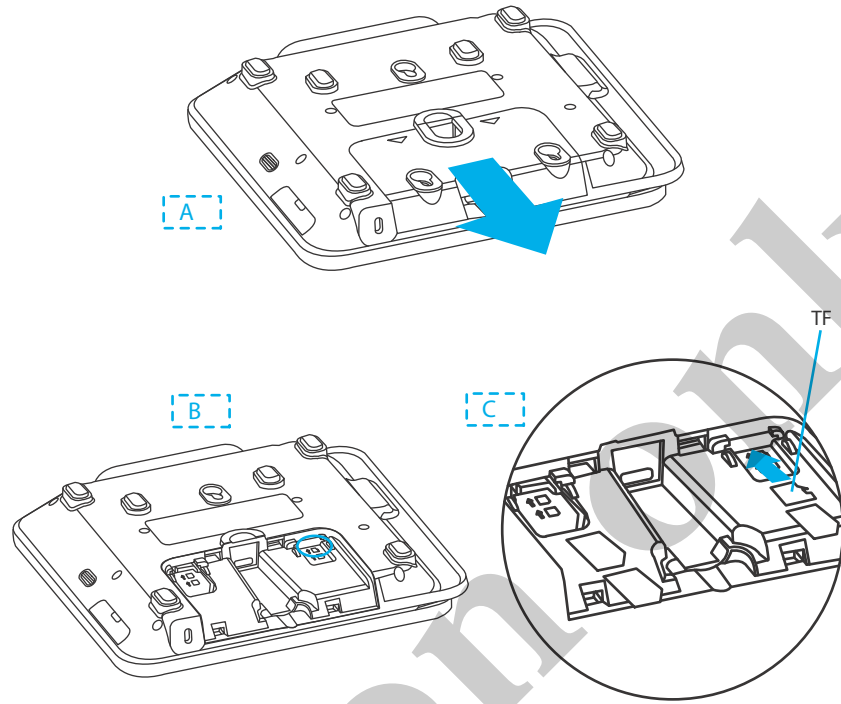

Figure 8 Micro SD Insertion
- 4 Insert the SD card. Carefully slide the card into the slot until fully inserted. The correct orientation of the SD card is as indicated in the Figure 8.